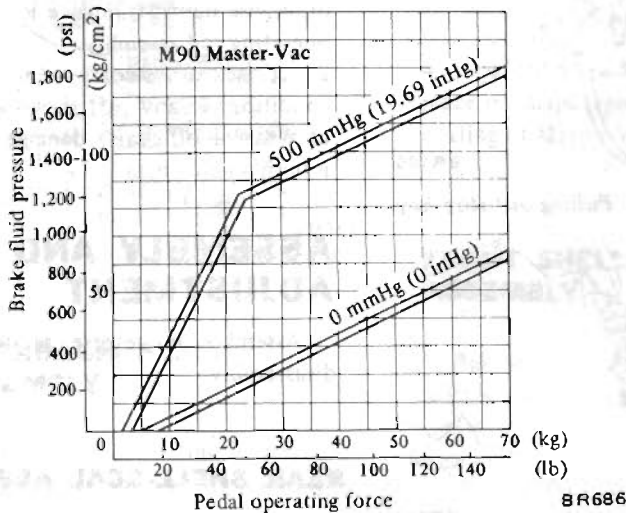

Fig. BR-40 Performance curve of Master-Vac (M90 type)
4. Relationship between oil pressure and pedal operating force is illustrated in Figure BR-40 or BR-41. If test results are not as specified in Figure BR-40 or BR-41, check Master-Vac as